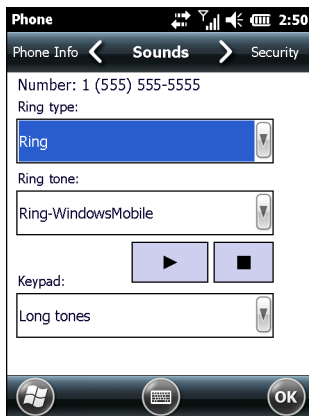

Figure 4-11 Phone - Sounds
1. From the **Security** tab (Figure 4-11), select the **Require PIN when phone is used** check box.
1. From the **Security** tab (Figure 4-11), tap **Change PIN**.
1. From the **Security** tab (Figure 4-11), deselect the **Require PIN when phone is used** check box.